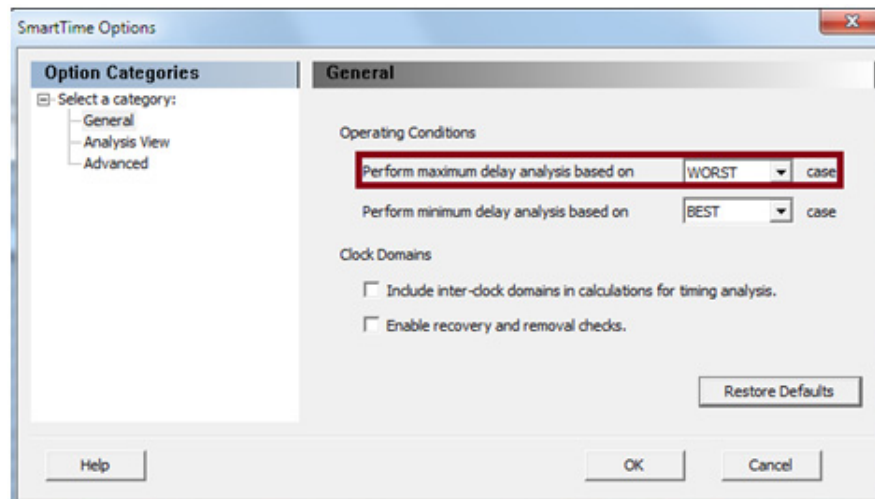

Figure 11 • SmartTime Setting for Worst Case Setup Analysis
2. Open the **SmartTime Options** window and set **Perform maximum delay analysis based on** options to **WORST** case conditions, as shown in Figure 11.